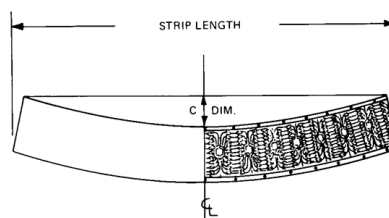

Figure 1
3.2 *camber* — curvature of the leadframe strip edge (see Figure 1).